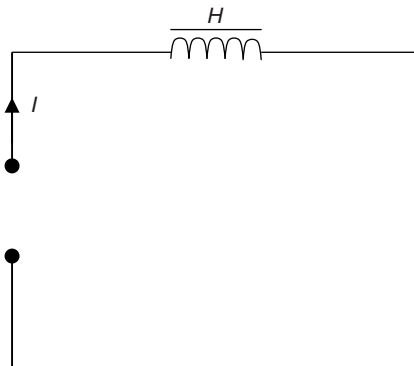

Figure 2
Where L is the inductance of the circuit or coil of wire and is stated in henrys (H), f is the frequency of the supply in hertz (Hz) (Figure 2).